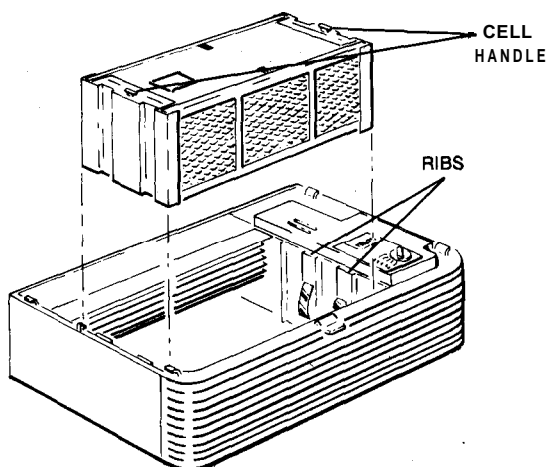

Figure 13
C. Using cell handles, align cell with the ribs on the inside cabinet wall (Figure 13). Gently slide cell into place.